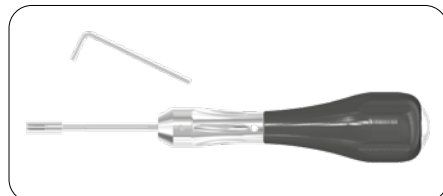

Fig. 2
Loosen the tomas®-screwdriver Allen set screw with the tomas®-screwdriver key 1.3 and remove the tomas®-screwdriver tip (Fig. 2).